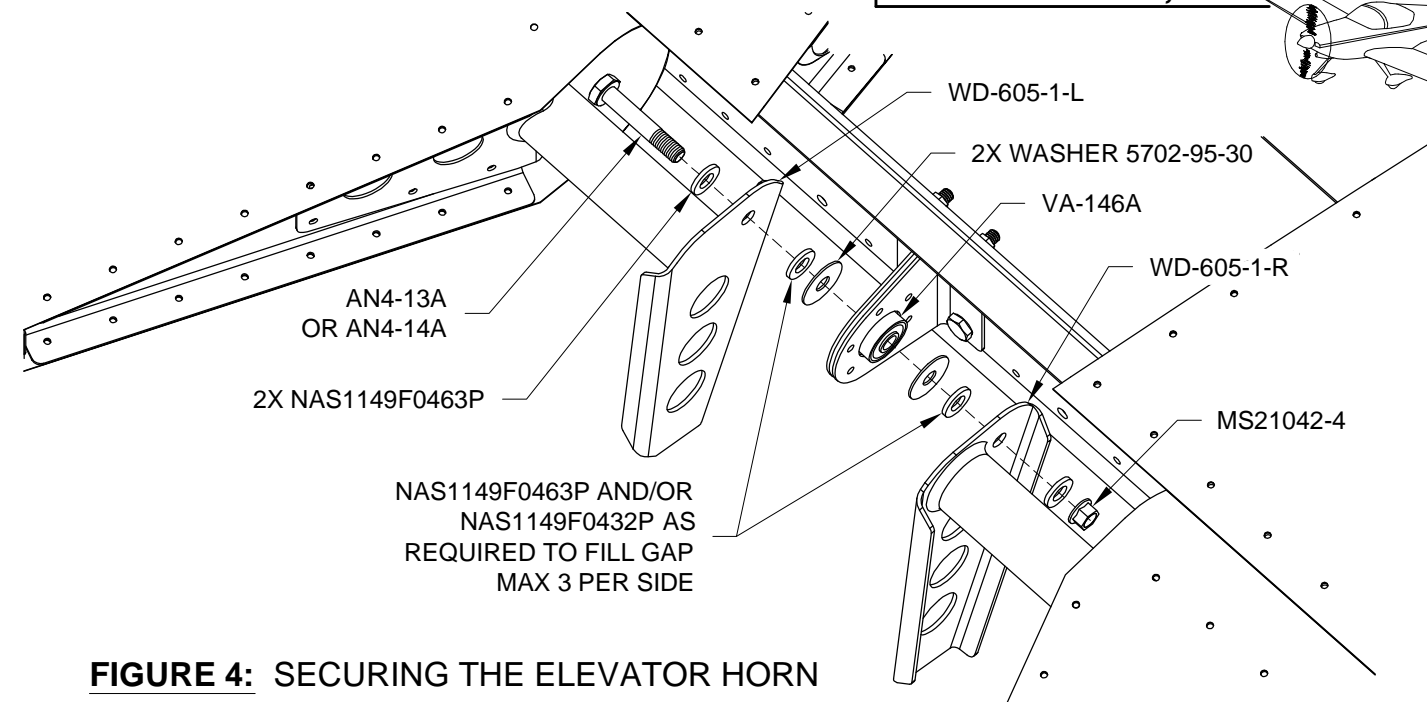

FIGURE 4: SECURING THE ELEVATOR HORN
Step 7: Secure the WD-605-1 Elevator Horns to the Horizontal Stabilizer as shown in Figure 4.